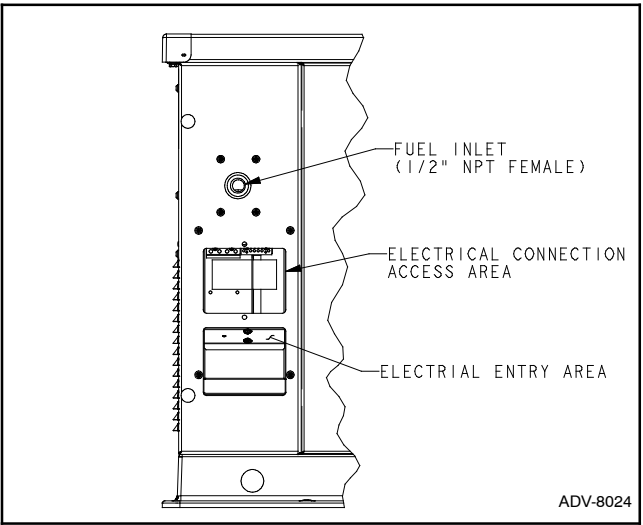

Figure 1-18 Electrical Connection Area
1. Remove the cover from the electrical connection access area. See Figure 1-18.
- a. See Figure 1-18 for the electrical inlet location. Remove the cover from the electrical inlet area.
7. Replace the cover over the electrical connection access area. See Figure 1-18.